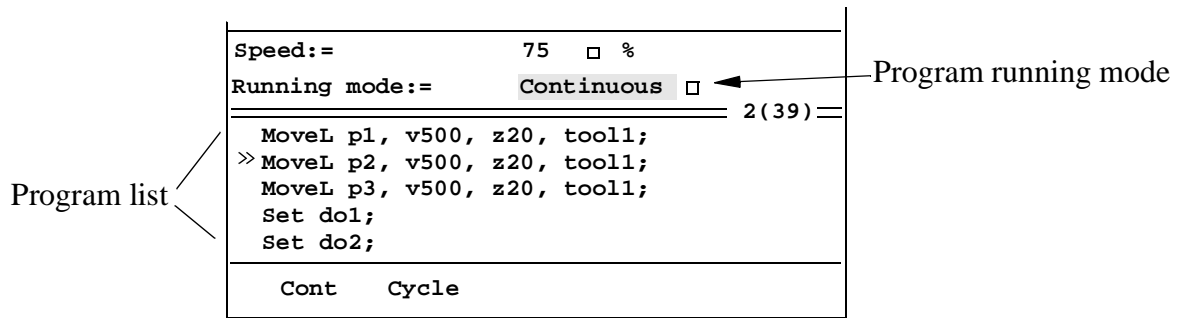

Figure 4 The function keys are used to select the different program running modes.
- Select **Running mode** (see Figure 4).